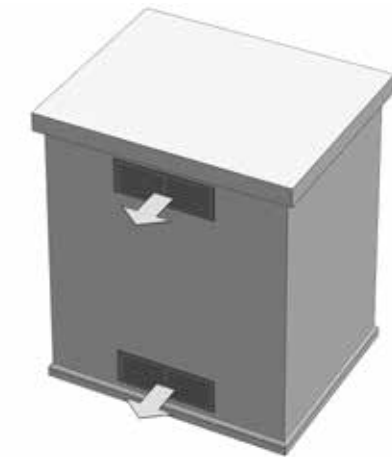

FIGURE 2
An enclosure for an LP-gas cylinder shall be ventilated by openings at both the upper and lower levels of the enclosure (See Figure 2). The effectiveness of the opening(s) for purposes of ventilation shall be determined with the LP-gas supply cylinder in place. This shall be accompanied by one of the following:
- Never place the grill where the gas hose creates a safety hazard (see Figure 2). Tripping over an exposed gas hose may create a gas leak or create other serious safety hazards.